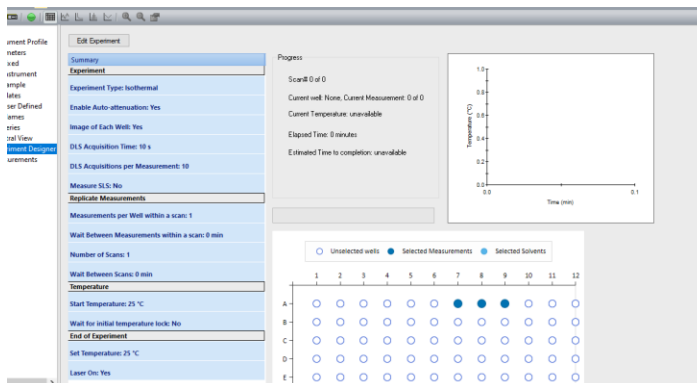

Fig 5 Experiment Designer Window
14. Click on Experiment Designer → Temperature → Select No for initial temperature lock → Choose the wells you will be putting your sample in (*Fig 5*).